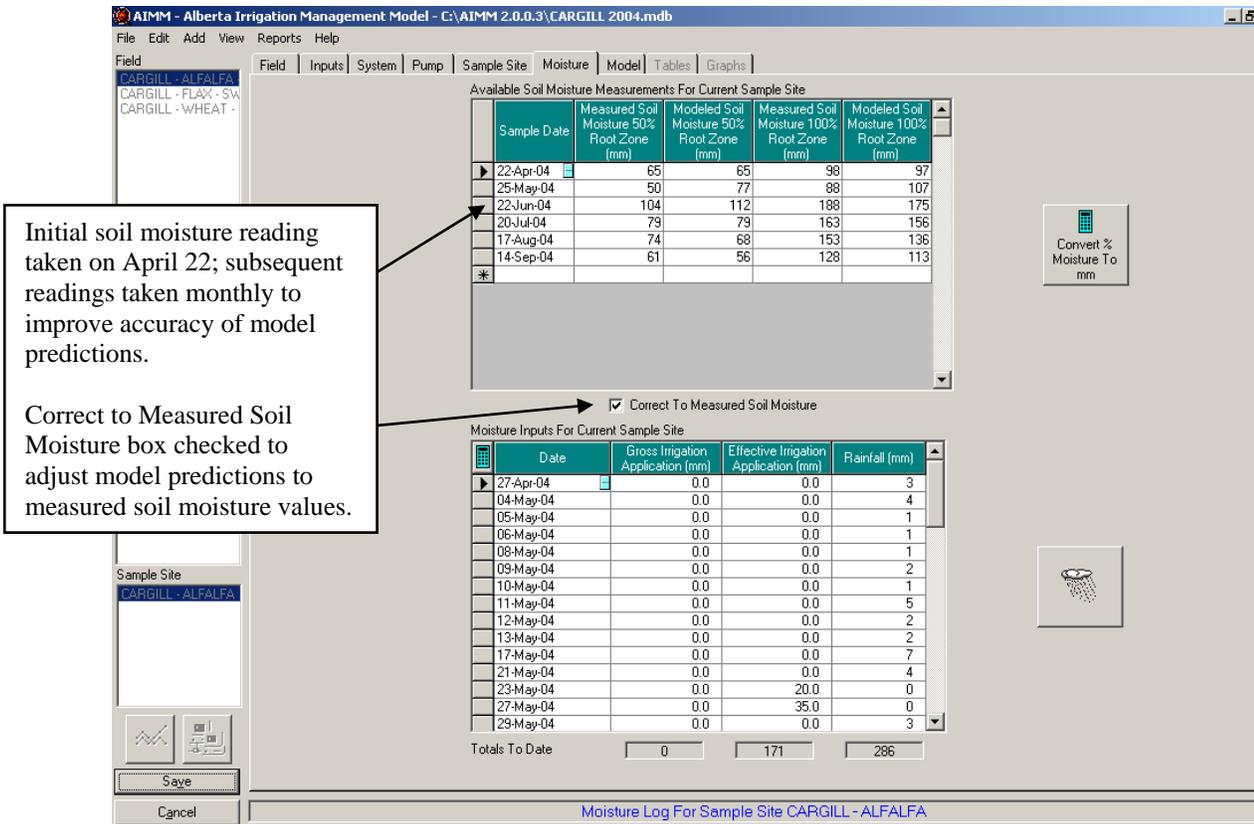

Figure 35. Correct to measured soil moisture option for corrections during year.
- Once the first soil moisture reading has been added, measured soil moisture data can be entered throughout the season to check on model accuracy or to correct model predictions (Figure 35). If you want to use 'Measured Soil Moisture' readings, the 'Correct to Measured Soil Moisture' box must be checked. Otherwise, modeled soil moisture values will be used.